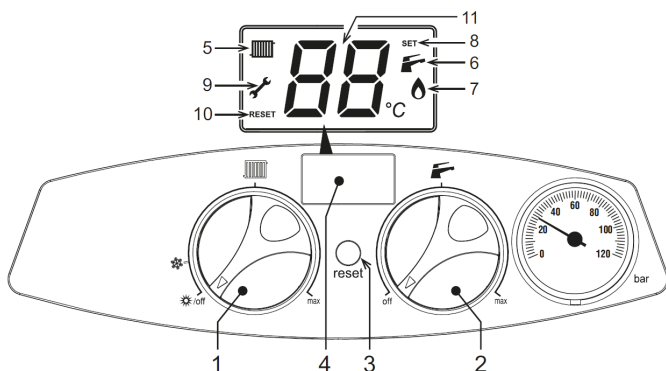
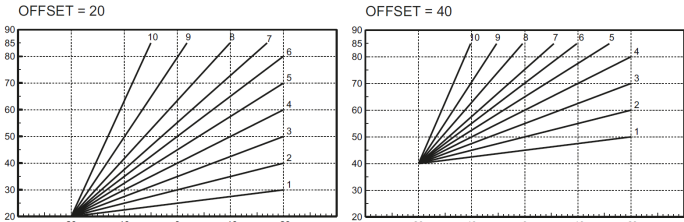

fig.1 – Control panel
fig.15 - Example of parallel offset of the compensation curves
The heating demand, triggered by the room thermostat or the remote control, is indicated by the radiator symbol (5 - fig.1).
The multifunction display (11 - fig.1) shows the temperature measured by the heating sensor.
Domestic hot water demand, generated by a draw-off, is indicated by the tap symbol (6 - fig.1).
The multifunction display (11 - fig.1) shows the temperature measured by the DHW sensor.
The need to restore the internal temperature of the boiler (Comfort mode) is indicated by the flashing of the respective symbol (8 - fig.1) and by the flame symbol (7 - fig.1).
Turn the controls (1 and 2 - fig.1).
When the boiler is switched off, the electronic board remains connected. DHW production and heating are disabled. The anti-freeze system remains active. To switch the boiler back on, set the controls (1 and 2 - fig.1) to the desired temperatures.
Turn only the heating control to the minimum setting (summer) (1 - fig.1).
To switch off Summer (Winter) mode, set the heating control (1 - fig.1 to the desired
The heating control (1 - fig.1) can be used to set the temperature between 30 °C and 80 °C.
The domestic hot water control (2 - fig.1) allows you to set the temperature between 40 °C and 65 °C.
To deactivate the function and set the unit to ECO mode, press the reset button (3 - fig.1). The Comfort mode symbol (8 - fig.1) will disappear and 'EC' (ECO) will be displayed on the screen for 3 seconds.
To return to COMFORT mode, press the reset button (3 - fig.1) again. The COMFORT mode symbol (8 - fig.1) lights up and 'CO' (COMFORT) appears on the display for 3 seconds.
If adaptive temperature control is enabled, the temperature set using the heating button (3 - fig.1) becomes the maximum heating flow temperature. It is advisable to set the maximum value so that the system can regulate the temperature across the entire operating range.
Pressing the **reset** button (3 - fig.1) displays the current compensation curve (fig.1), which can be adjusted using the **domestic hot water control** (2 - fig.1).
After turning the heating control (1 - fig.1), the code "OF" appears flashing. By pressing the reset key (3 - fig. 1), the current curve offset appears (fig.15), which can be modified with the domestic hot water control (2 - fig.1).
If the heating control (1 - fig.1) is turned again and then the Reset key (3 - fig.1) is pressed for 5 seconds, the parallel curve regulation mode is exited. If the room temperature is lower than the desired value, it is advisable to select a higher-order curve, and vice versa. Try increasing or decreasing by one unit and check the result in the room.